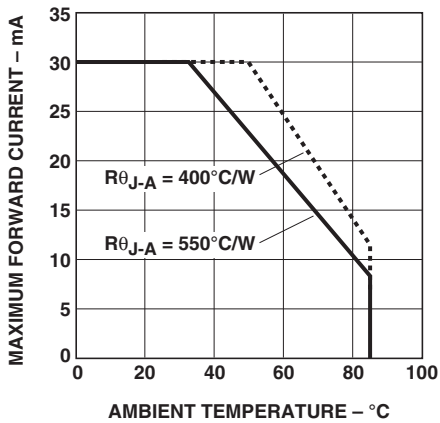

Figure 5. Maximum forward current vs. ambient temperature. Derating based on $T_{jMAX} = 110\frac{1}{2}C$.
1. Derate linearly as shown in Figure 5.